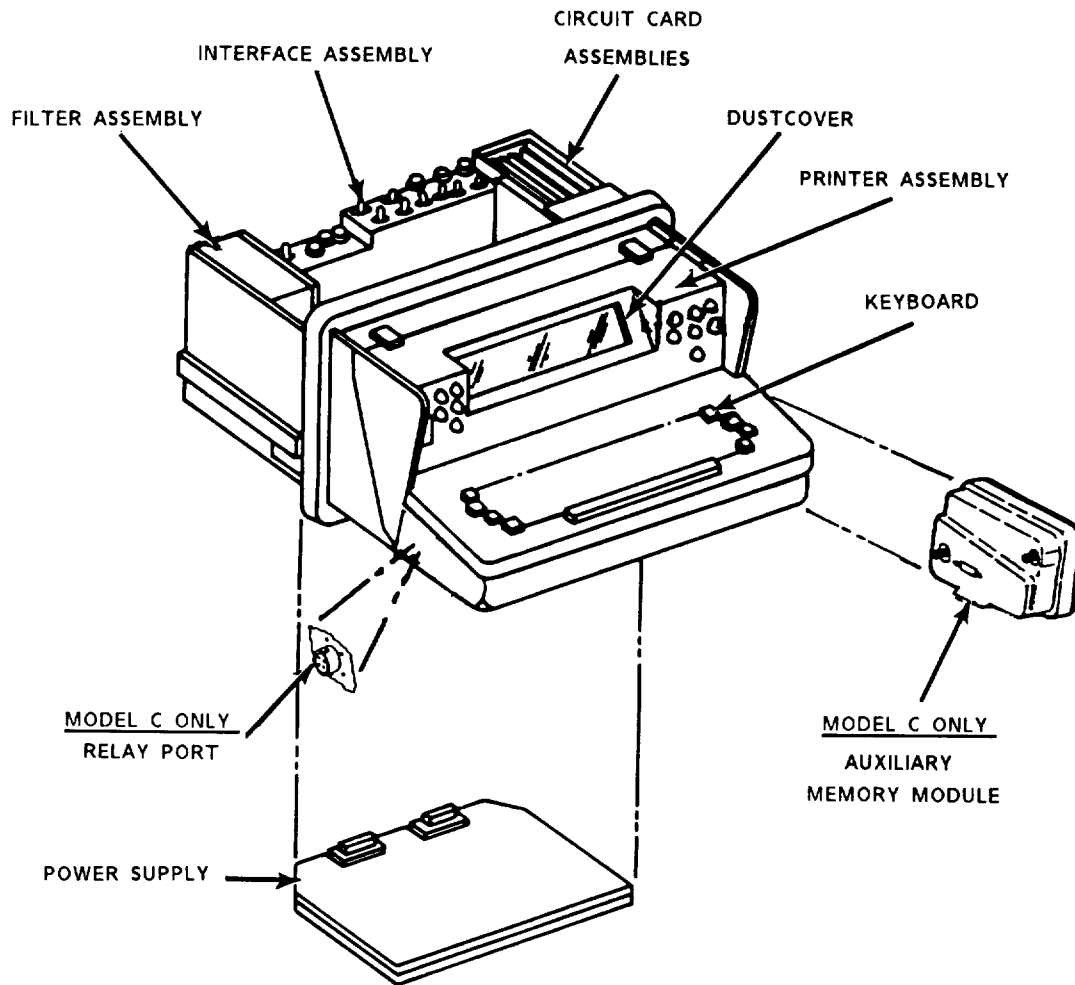

Figure 1-2, MAJOR COMPONENTS OF TERMINAL
- Model C Auxiliary Memory Module mounts on the right-hand side of the keyboard assembly (fig. 1-2).